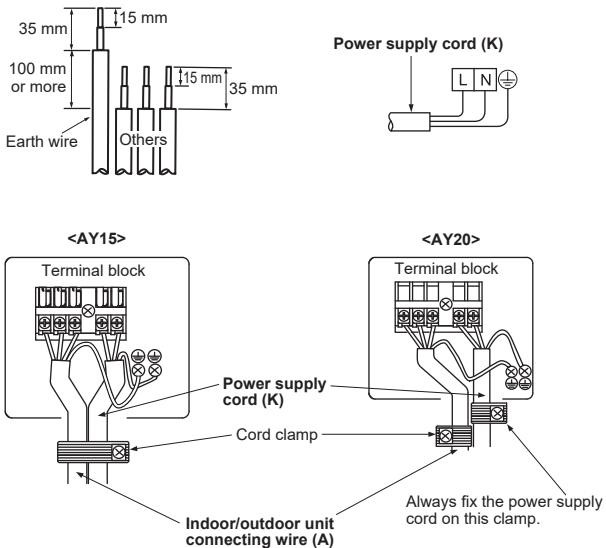

Figure 5
- Insert the drain hose into wall hole sleeve (C), and hook the upper part of indoor unit on installation plate (1). Then, move the indoor unit completely to the left in order to make placing the piping in the back space of the unit easier.
- Cut out the spacer from the packaging styrofoam and set it on the rib on the back of the indoor unit. (Figure 5)
- Connect the refrigerant piping with the extension pipe (B).
- Thrust the lower part of the indoor unit into the installation plate (1).